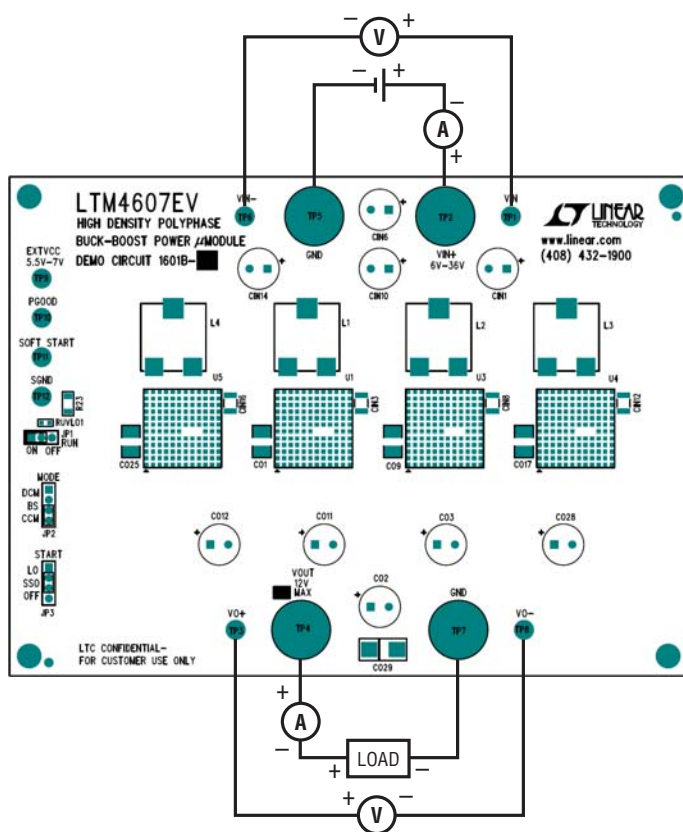

Figure 1
Demonstration circuit DC1601B is easy to set up to evaluate the performance of paralleled LTM4607 modules. Please refer to Figure 1 for proper measurement equipment setup and follow the procedure below:
1. With power off, connect the input power supply, load, and meters as shown in Figure 1. Preset the load to 0A and  $V_{IN}$  supply to be 0V. Place jumpers in the following positions for a typical 12VOUT application: